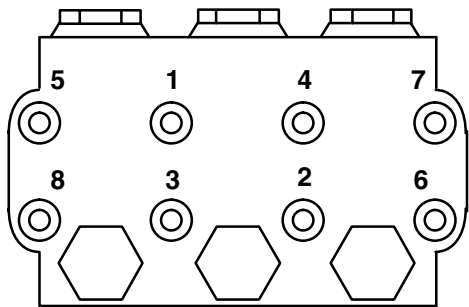

Figure 5
8. Install capscrews and washers finger-tight. Torque screws to 22 ft-lb (30 N•m). Follow tightening pattern in Fig. 5.